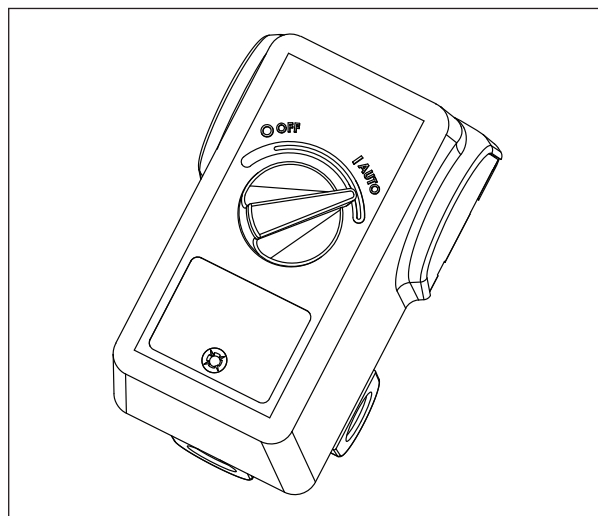

Figure 6
4. Move pressure switch to the **AUTO** position to run the unit (see Figure 6).
5. Run the unit for thirty (30) minutes at zero (0) psi (under no load) to break in pump parts.
7. Change oil after first fifty (50) hours of operation. Then perform oil changes every three (3) months.